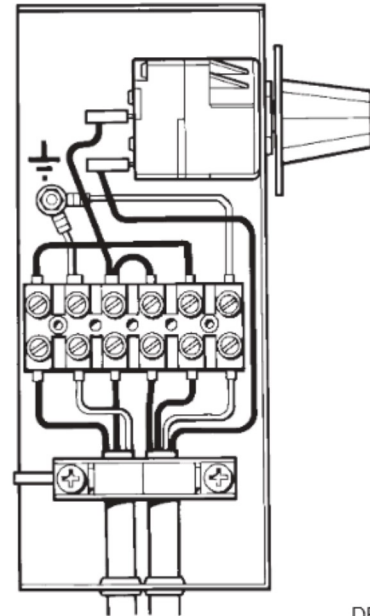

FIG. 8
1. Make electrical connections to terminal strip as wiring diagram (See Fig. 8).